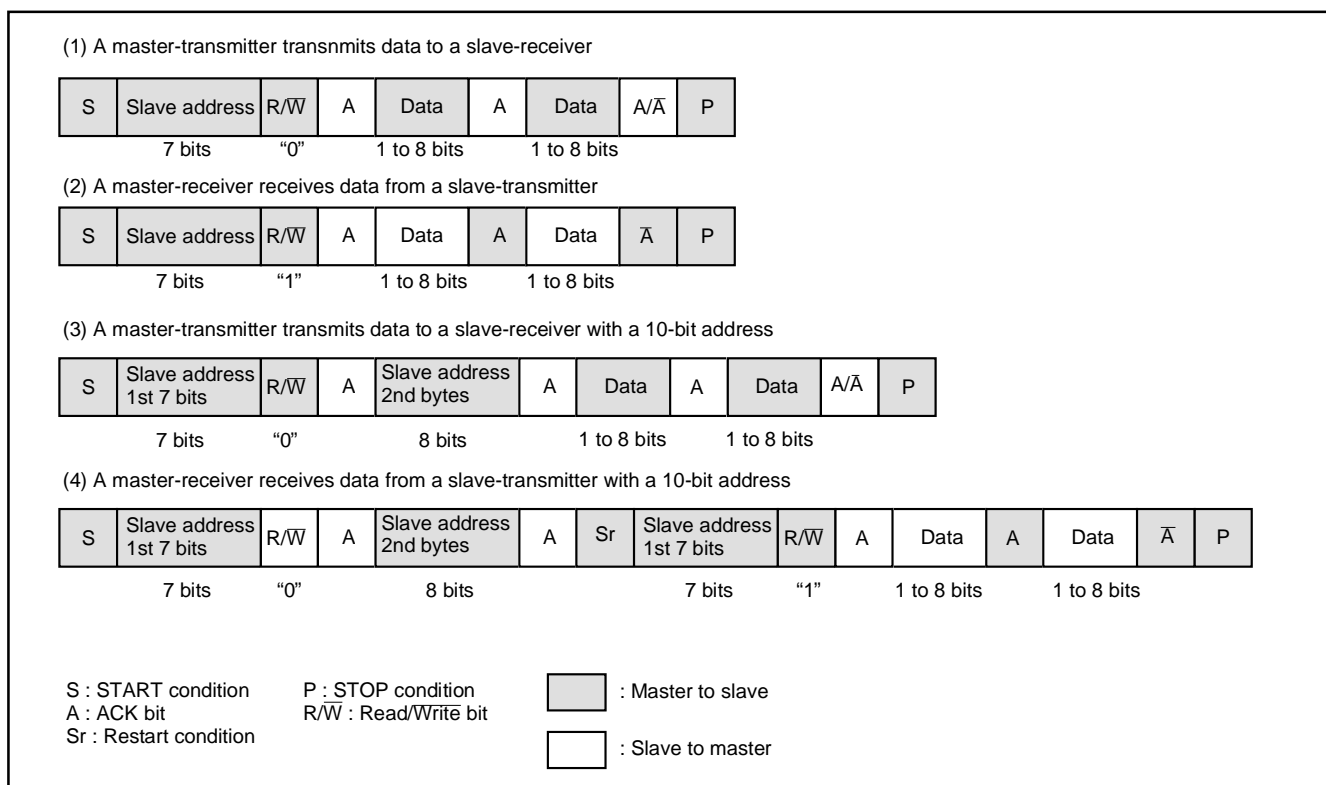

Fig. 39 Address data communication format
① 7-bit addressing format
To adapt the 7-bit addressing format, set the 10BIT SAD bit of the I²C control register (address 002E16) to "0." The first 7-bit address data transmitted from the master is compared with the high-order 7-bit slave address stored in the I²C address register (address 002C16). At the time of this comparison, address comparison of the RWB bit of the I²C address register (address 002C16) is not performed. For the data transmission format when the 7-bit addressing format is selected, refer to Figure 39, (1) and (2).
② 10-bit addressing format
When the first-byte address data agree with the slave address, the AAS bit of the I²C status register (address 002D16) is set to "1." After the second-byte address data is stored into the I²C data shift register (address 002B16), perform an address comparison between the second-byte data and the slave address by software. When the address data of the 2 bytes agree with the slave address, set the RWB bit of the I²C address register (address 002C16) to "1" by software. This processing can make the 7-bit slave address and R/W data agree, which are received after a RESTART condition is detected, with the value of the I²C address register (address 002C16). For the data transmission format when the 10-bit addressing format is selected, refer to Figure 39, (3) and (4).